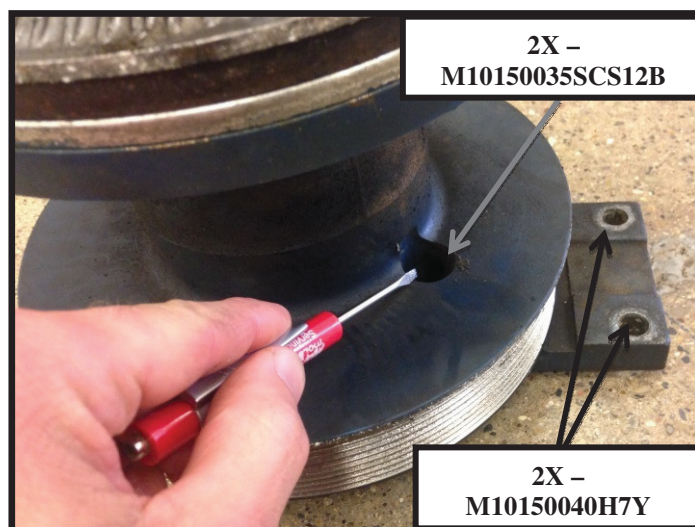
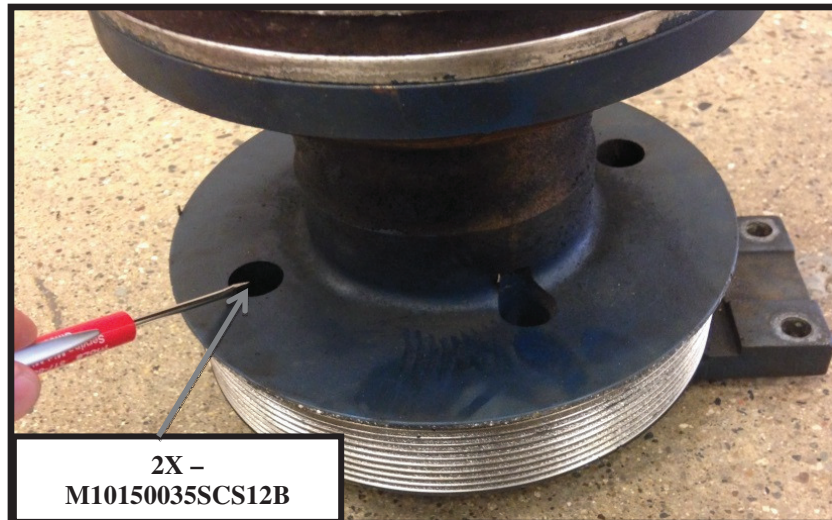

FIG. 4-2
FIG. 5-1
- c. The third mounting configuration utilizes two exposed hex head fasteners and four 8mm Allen socket head cap screws accessed through a machined hole in the pulley. The top cap screws can be accessed through the hole shown in FIG. 4-2. The bottom cap screws can be accessed through the hole shown in FIG. 5-1. Properly dispose of hardware.